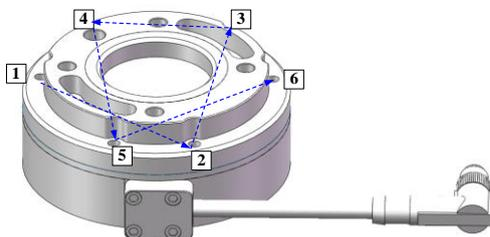

Figure 2-27 Screw Tightening Sequence
- c. Install the mounting flange on the robot: Use $\phi 5$ positioning pins to position the mounting flange and the robot, and use four M6 hexagon socket screws to fix them. The positioning pins make it easy to install and connect the device repeatedly, and they will not affect sensor performance if not used. Gradually tighten the screws according to the diagonal sequence shown in Figure 2-27 to deliver uniform contact between the sensor and the robot or adapter tooling.